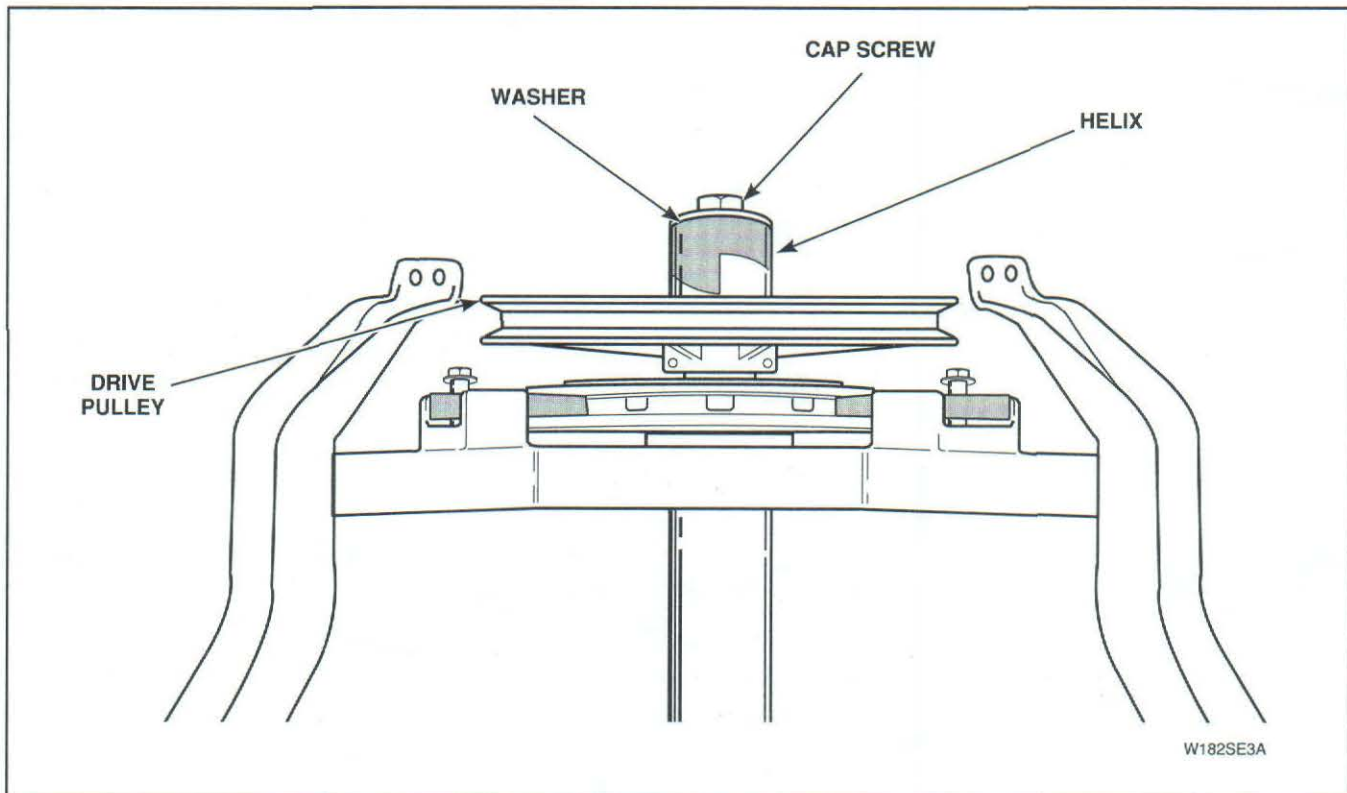

Figure 50
- m. Remove screw, washer and helix holding drive pulley to input shaft of transmission assembly, *Figure 50*.
- Remove screw, washer and helix holding drive pulley to input shaft of transmission assembly, *Figure 50*.